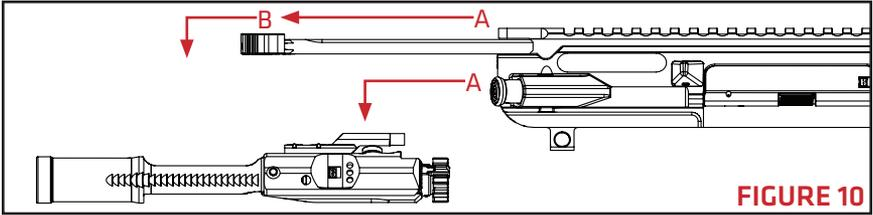

FIGURE 10
3. Pull back the charging handle and withdraw the bolt carrier assembly (**FIGURE 10-A**).
4. Slide the charging handle out of its track and remove it (**FIGURE 10-B**).